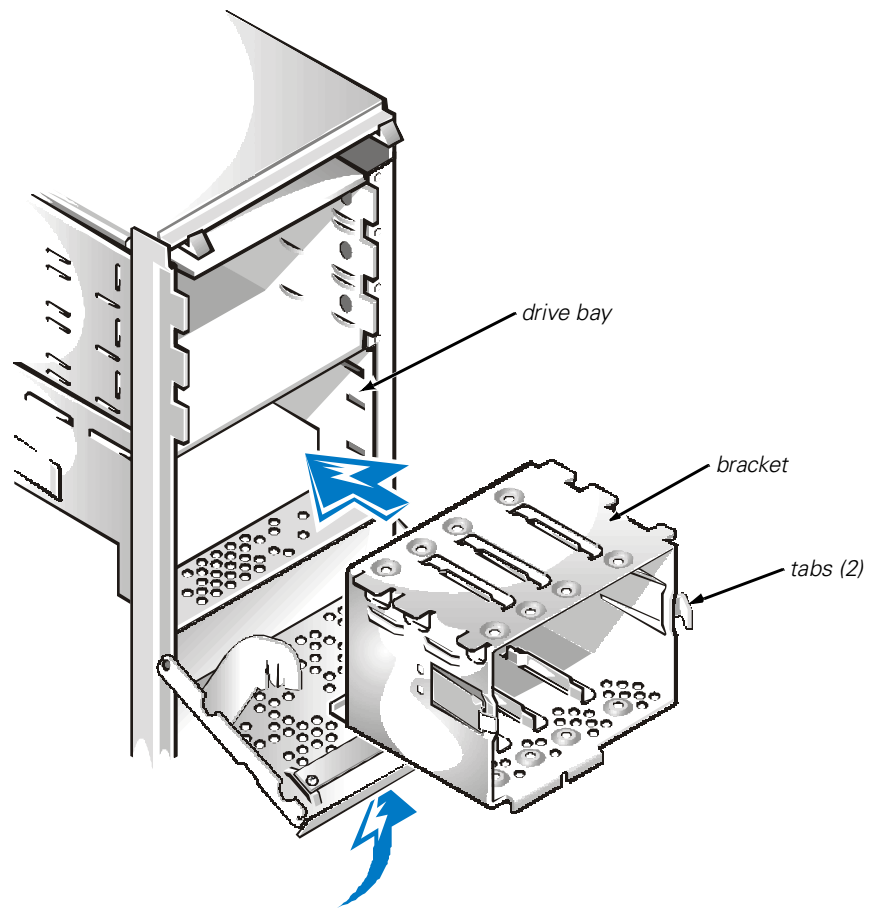

Figure 9-10. Inserting the Hard-Disk Drive Cage Into the Chassis
7. Reinstall the hard-disk drive cage in the chassis (see Figure 9-10).